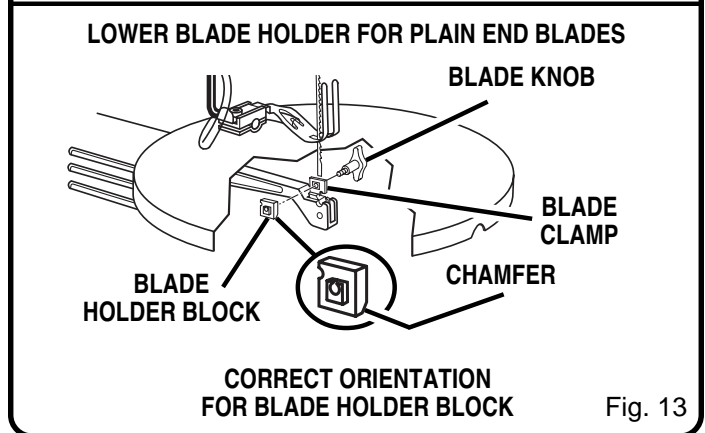

Fig. 13
- Flip blade holder block 180°, then rotate "V" notch up 90° as shown in figure 13. Blade holder block will fit flush against blade holder.